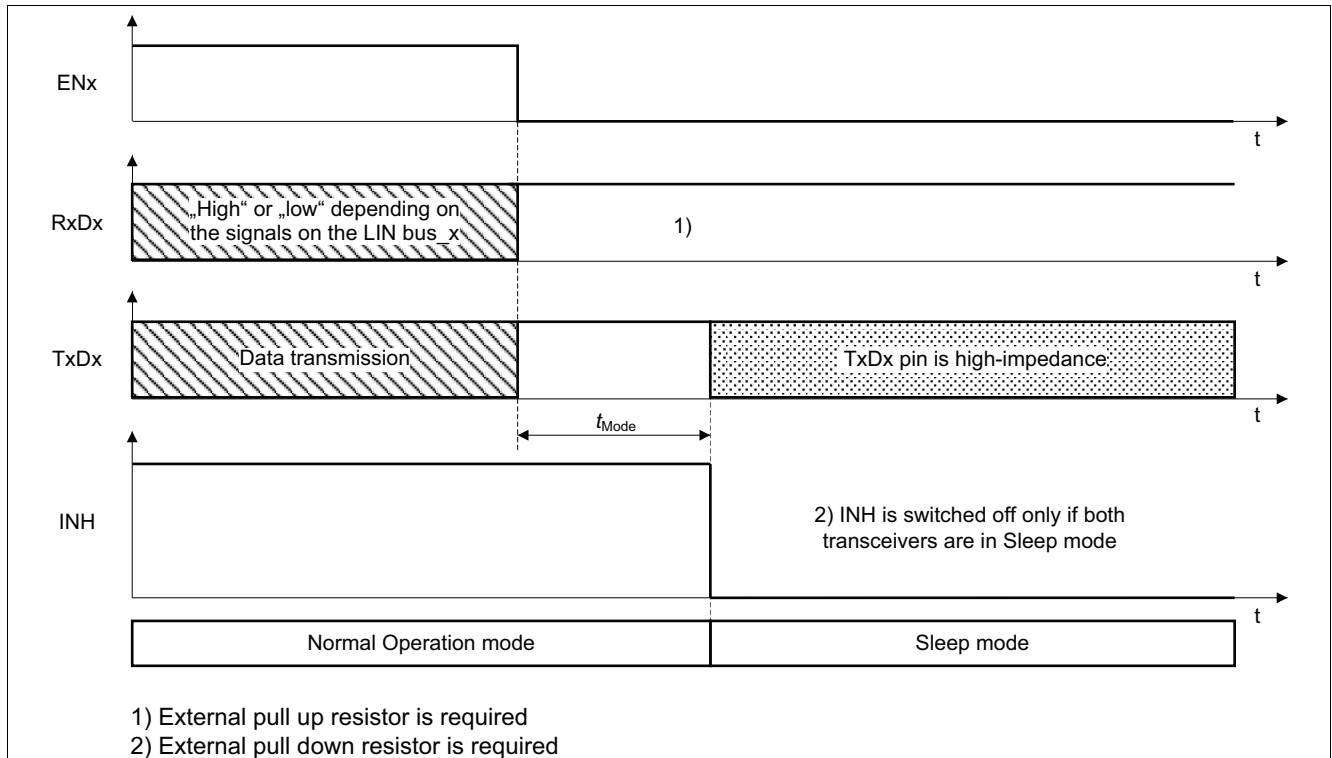

Figure 6 Transition from Normal Operation mode to Sleep mode
- The Sleep mode will be entered, if the transceiver\_x is in Normal Operation mode AND the ENx pin has been set to “low” (see Figure 6).
Figure 6 shows the behavior of the RxDx, TxDx and INH pin when the transceivers enter Sleep mode from Normal Operation mode.